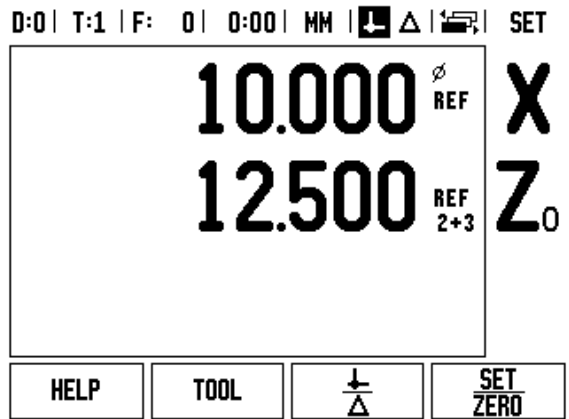

Fig. II.11 Enabling Z Coupling
- ▶ Press the numeric keys associated with the encoder input on the back of the unit. Press the **+** or **-** soft keys to couple a second input with the first. The input numbers are displayed next to the axis label indicating that the position is a coupled position (i.e. "2 + 3". See Fig. II.11.
To couple the Z₀ and Z axis and have the result displayed on the Z₀ display, press and hold the Z₀ key approximately 2 seconds. The sum of the Z positions will be displayed on the Z₀ display and the Z display will be blanked. See Fig. II.11.